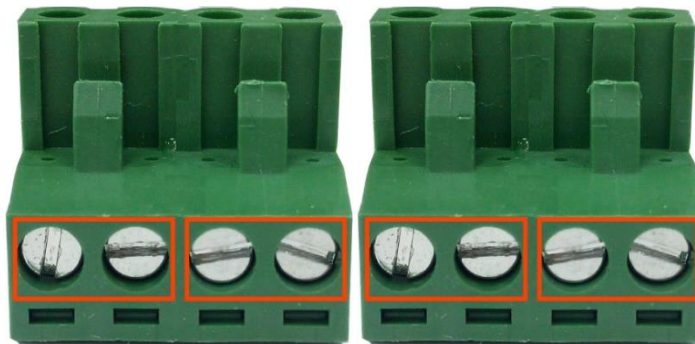

Figure 2.10: Power Terminal Block
- Step 2 Tighten the wire-clamp screws to prevent the wires from loosening, as shown below in Figure 2.10.